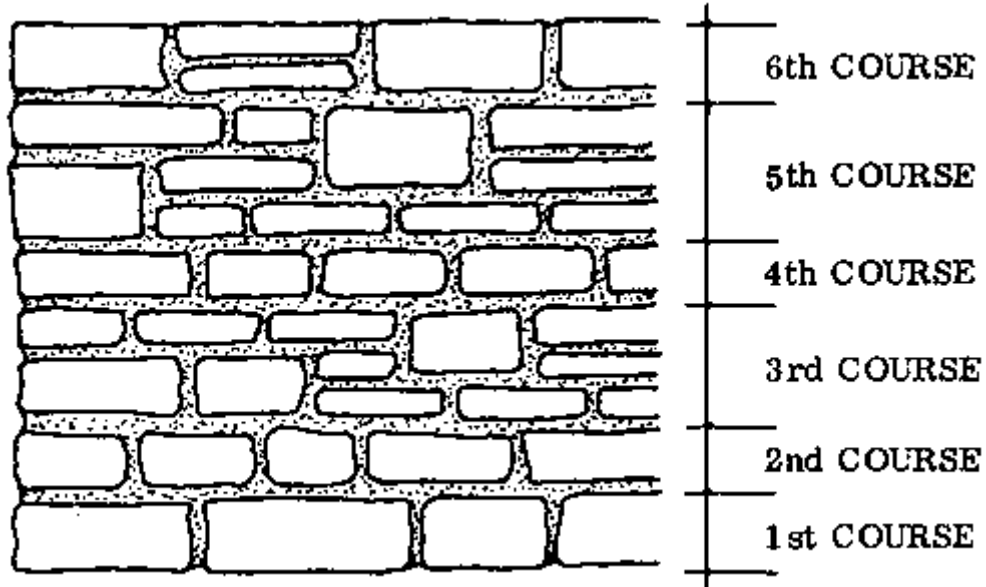

Fig. 1 BROKEN RANGE MASONRY
- **BROKEN RANGE MASONRY:** The stones of this masonry are accurately shaped with the club hammer and cold chisel (Reference Book, page 15) so that all the faces are square to each other. The bond should not contain joints more than 3 cm thick. The height of the stones may vary within a course, and the height of the courses may also vary, with the result that the courses are continuous for only short distances (Fig. 1).